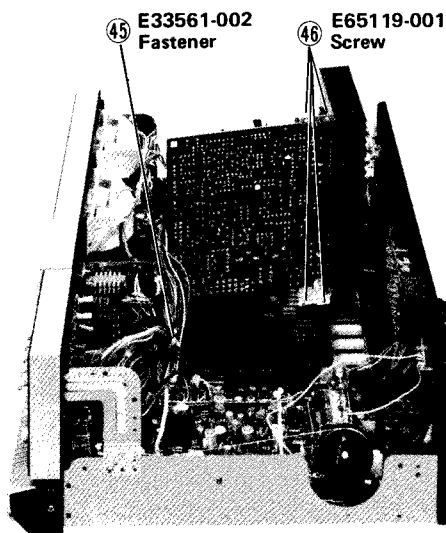

Fig. 8
4. Remove TXX-129A-1 with the heat sink and place it carefully as shown in Fig. 8.